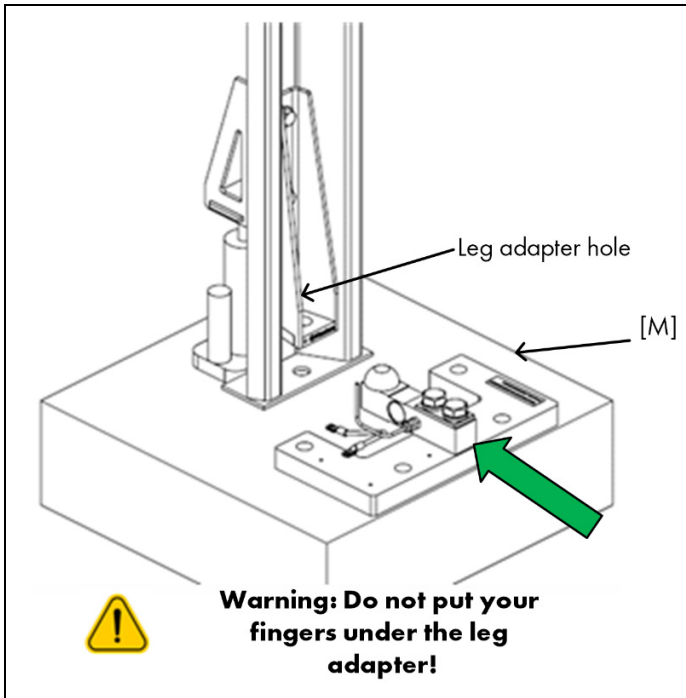

Figure 18: Load Cell Assembly under Bin Leg
8. Position the Load Cell Assembly [M] under the bin leg; the half ball hole must be under the leg adapter hole (Figure 18).